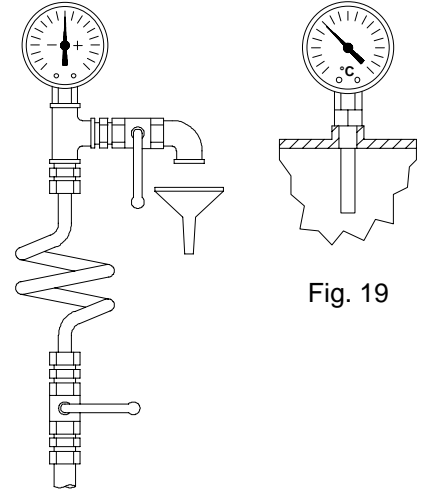

Fig. 19
b) Temperature gauges should be installed with thermowells selected for the specific purpose and fitted in strategic locations where the reading is required (see fig. 19).